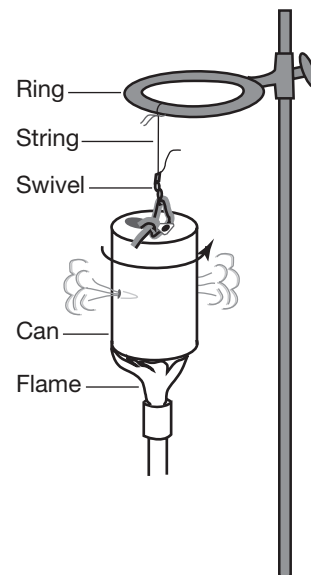

Figure 6.
8. Attach a ring clamp to a support stand, and tie a length of string to the outside edge of the ring. Tie the other end to the fishing swivel about 1 cm below the ring, and cut off any extra string (see Figure 6).
1. Establish a cool flame on a Bunsen burner and place it under the can, adjusting the ring height if necessary (see Figure 6).